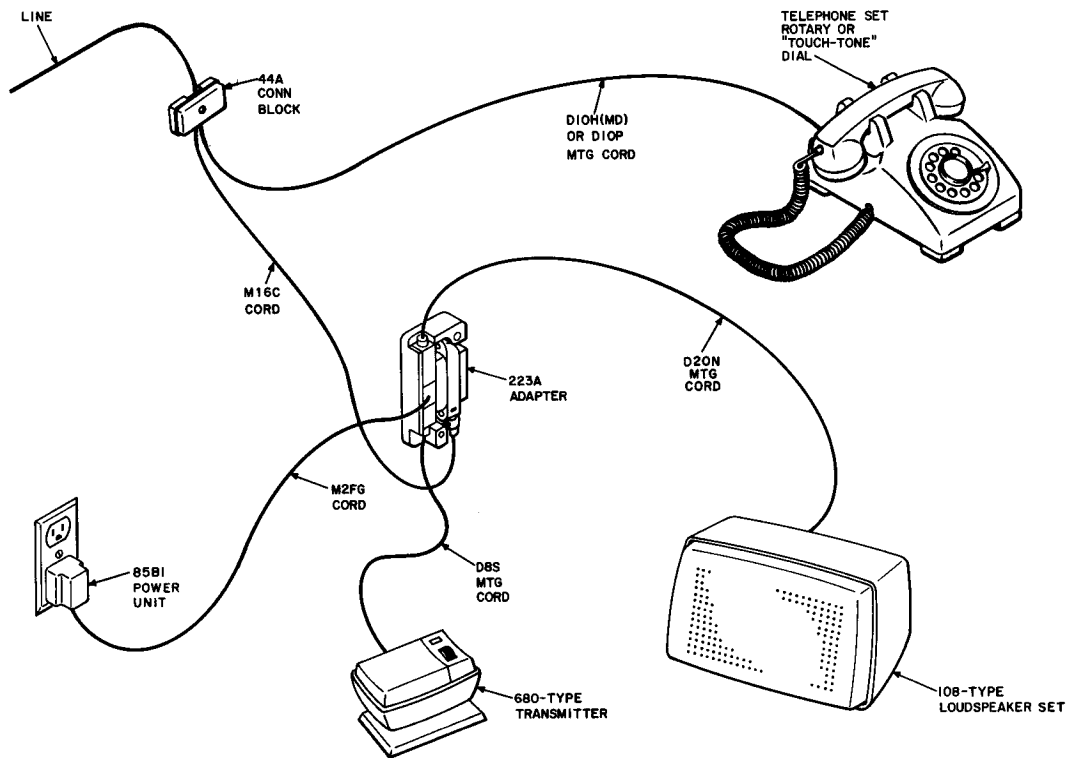

Fig. 1—Speakerphone Arrangement, 500S or 2500S Telephone Set
1.03 To provide 4A speakerphone feature at the 500- and 2500-type telephone sets, refer to Fig. 1 or 2 for layout arrangement of the components required for the system and Fig. 2 through 6 for individual lead connections.
2.04 Power can be supplied by connecting 85B1 power unit as shown in Fig. 1 through 6.